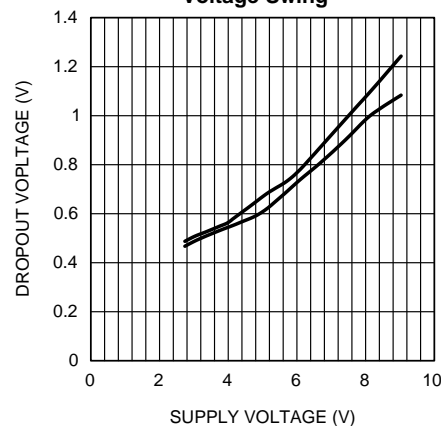

Figure 30.
The design begins by specifying the minimum supply voltage necessary to obtain the specified output power. One way to find the minimum supply voltage is to use the Equation (7) curve in the Typical Performance Characteristics section. Another way, using Equation 7, is to calculate the peak output voltage necessary to achieve the desired output power for a given load impedance. To account for the amplifier's dropout voltage, two additional voltages, based on the Figure 30 in the Typical Performance Characteristics curves, must be added to the result obtained by Equation (7). The result is Equation (8).